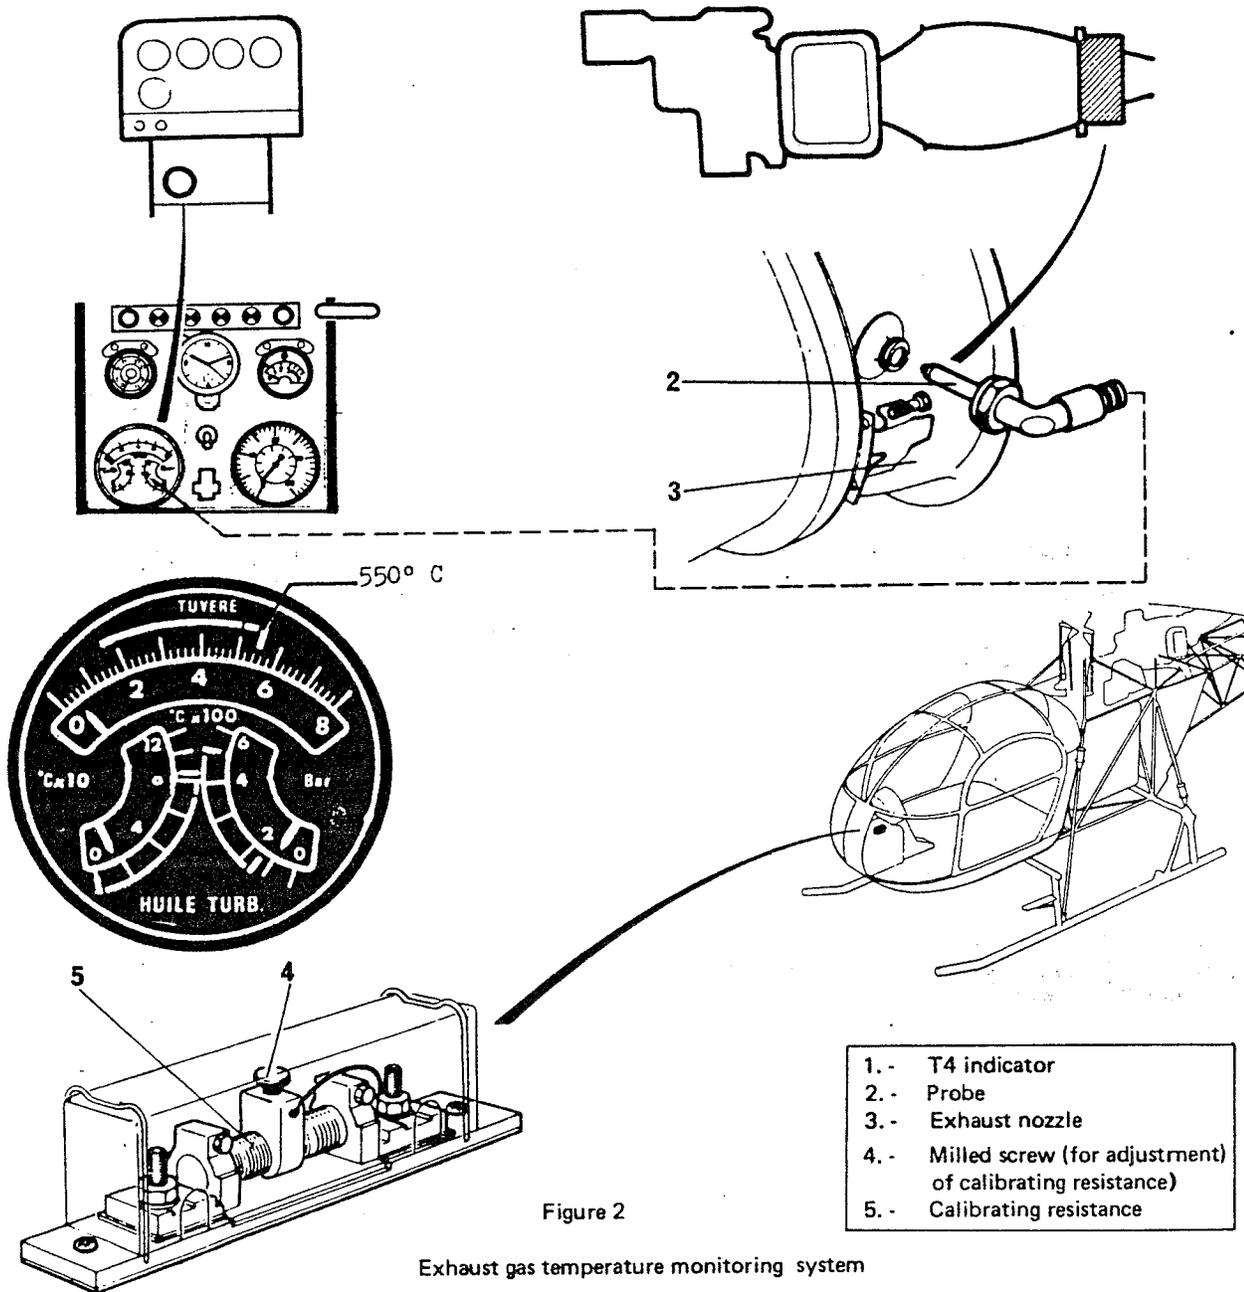

Figure 2
12.40.3 - EXHAUST GAS TEMPERATURE MONITORING (Figure 2)